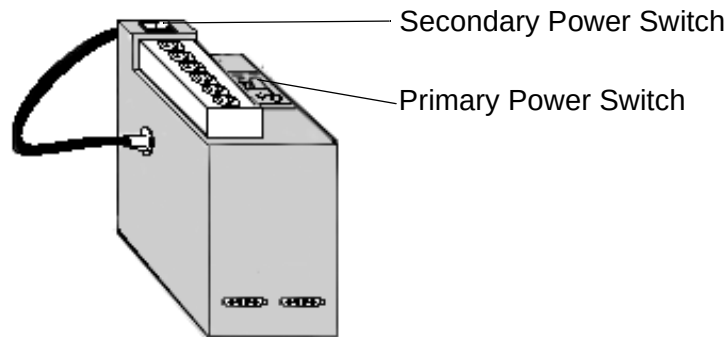

Figure 22. Power Distribution Box
8. Toggle the main power switch on the distribution box to the ON position. Figure 22 shows the Power Distribution Box.